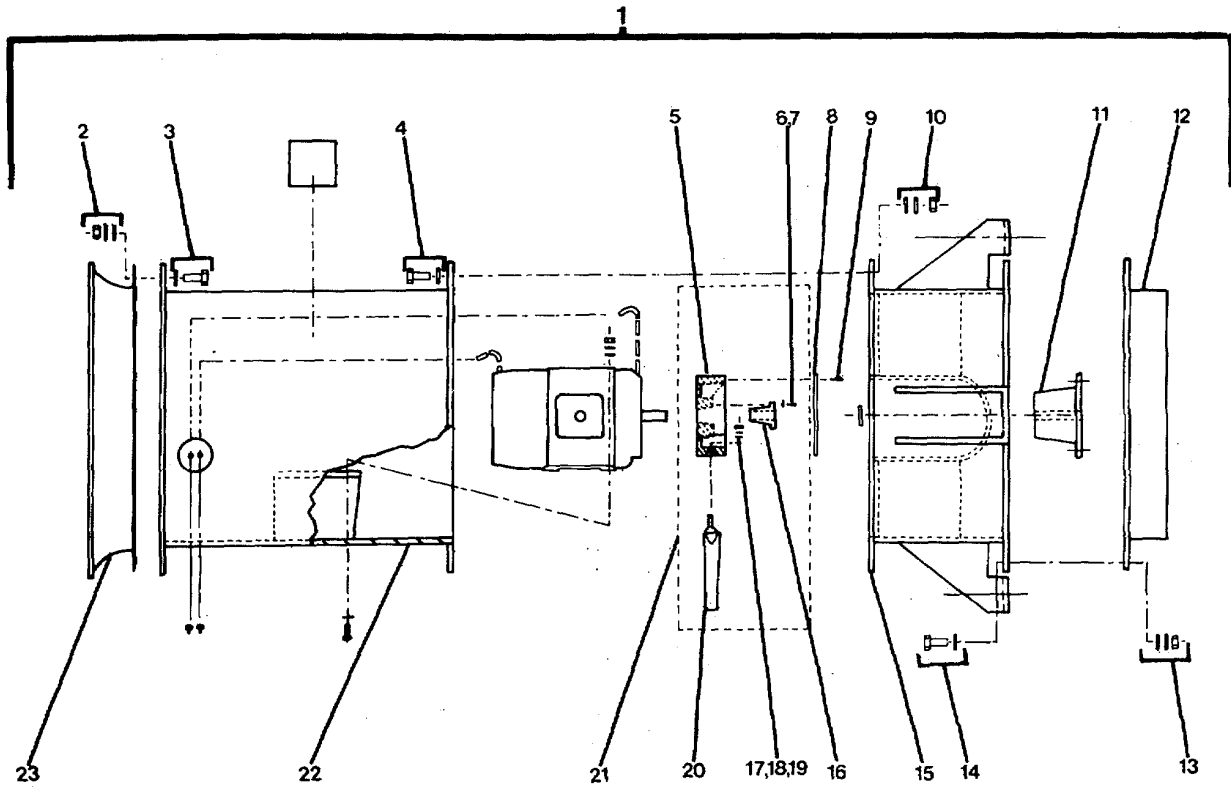

Figure 4-3 Ventilating Fan (Supply Fans 1 and 2 .
- j. Install motor (1) onto fan unit.
- a. Position motor (1) on fan unit and install to motor base (20) by connecting flat washer, lockwasher, and motor mounting lock nut with motor mounting screw and flat washer.
- c. Connect electrical wiring in motor jack box (21).
- (1) Turn electrical power ON.
- (2) Start and run fan motor to check operation.
- (3) Remove "Out of Service" tag from circuit.
**4-13. Replace/Repair Fan, Ventilating (Supply Fans 1 and 2). (FIGURE 4-3)**